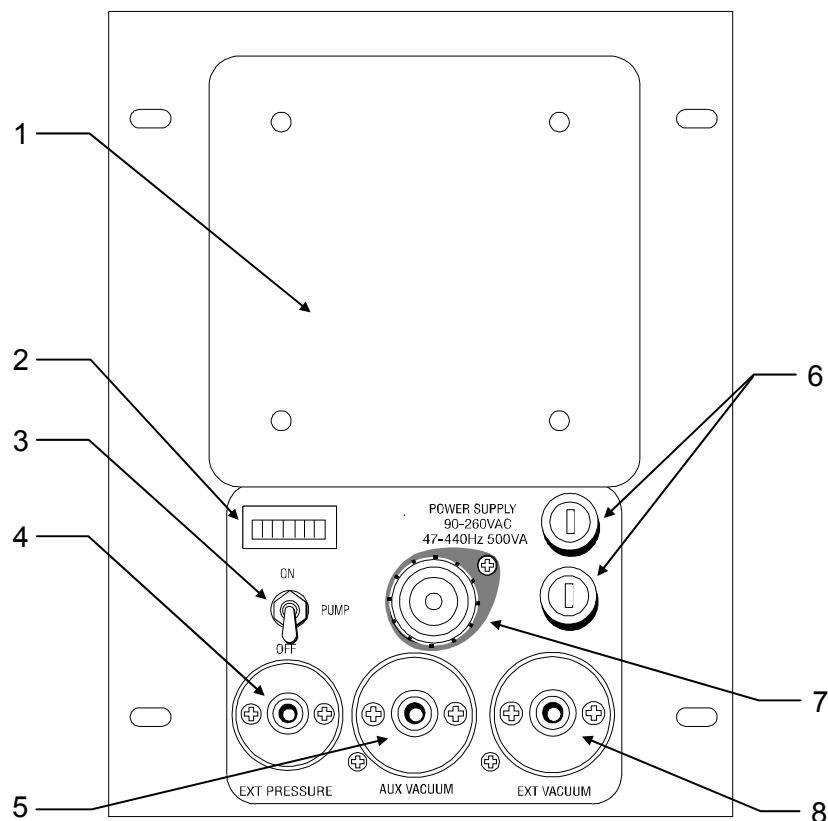

Figure 6 DPS500 Pressure/Vacuum Pump Assembly
D. PRESSURE/VACUUM PUMP (Fig. 6).